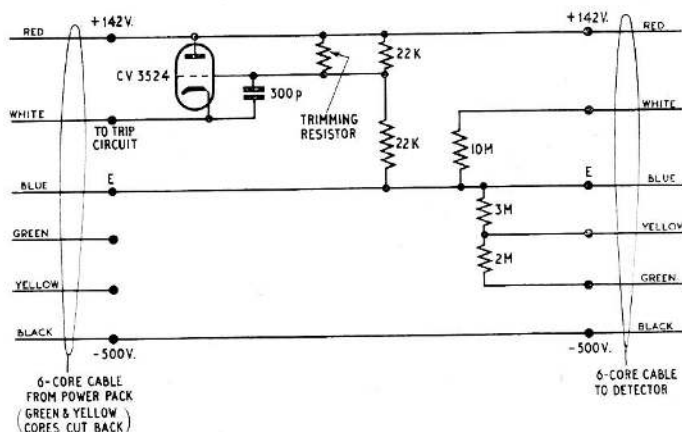

Fig. 2. Circuit diagram
6. The over-voltage unit is inserted in the output lines of the power pack, between the power pack and the detector(s). The two 22K resistors (fig. 2), connected across the +142 volt power pack output, form a potential divider, the mid-point of which supplies the grid voltage of the cold cathode valve. These resistors, together with the trimming resistor provide sufficient potential at the mid-point to trigger the valve when the power pack output voltage is 159 ± 3 volts.